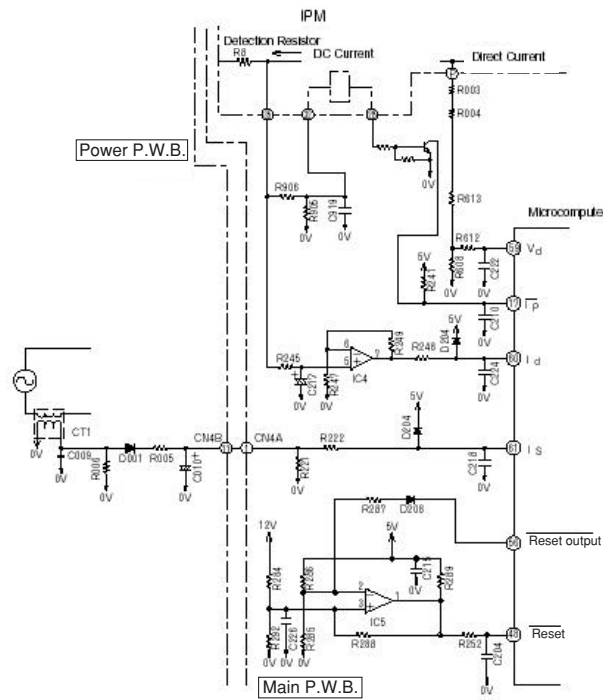

Fig. 6-2
ID OVL is watching and limits the compressor current through the detection resistor, which is built in IPM in order to control the compressor reliability. Since the compressor reliability is related with its speed, the ID OVL value is also linked with the compressor speed. FIG6-2 shows an ID OVL limitation curve.
Fig. 6-2. The filter consisting of R245 and C217 removes high harmonic frequencies from the voltage generated by the current flowing to Detection resistor; R245 and C217 average the voltage. This voltage is then input to IC4 pin ⑤ and supplied to microcomputer pin ⑥. The microcomputer compares this input with the set value, and if the input exceeds the set value, it enters overload control status.